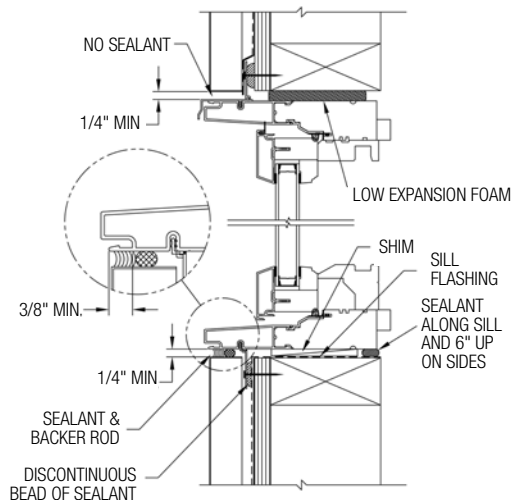

FIG. 19
- A) Install a seal around the full interior perimeter of the opening. On the side/jamb and top, apply minimally expanding window and door spray foam insulation. Use caution not to overfill the gap, causing the sides/jamb to bow. It is not recommended to apply trim to the unit until the foam has cured to allow excess to escape. On the sill, apply a bead of sealant between the sill flashing and the window frame. (Fig. 19)